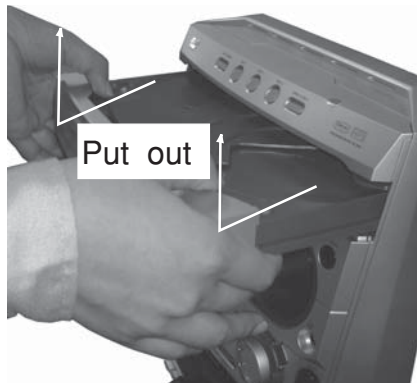

Figure 4
- 3) Remove the Cover Tray as shown in figure 4.